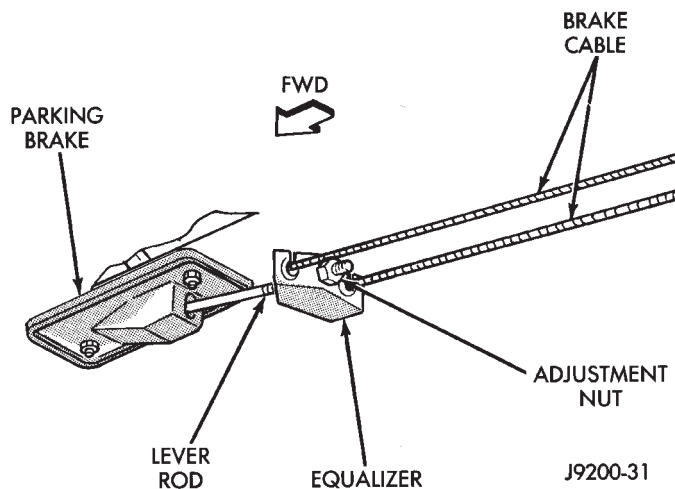

Fig. 10 Park Brake Equalizer (XJ)—Typical
(1) As applicable, engage the park brake lever or pedal and then release it.
(2) If the park brake is functioning normally, test it for smooth operation and vehicle-holding capability.
(3) Inspect the park brake cables for kinks, fraying and a binding condition.
(4) With the park brake released, the rear wheels should rotate without restriction. Adjust the park brake cable tension at the equalizer (Fig. 10), if necessary.